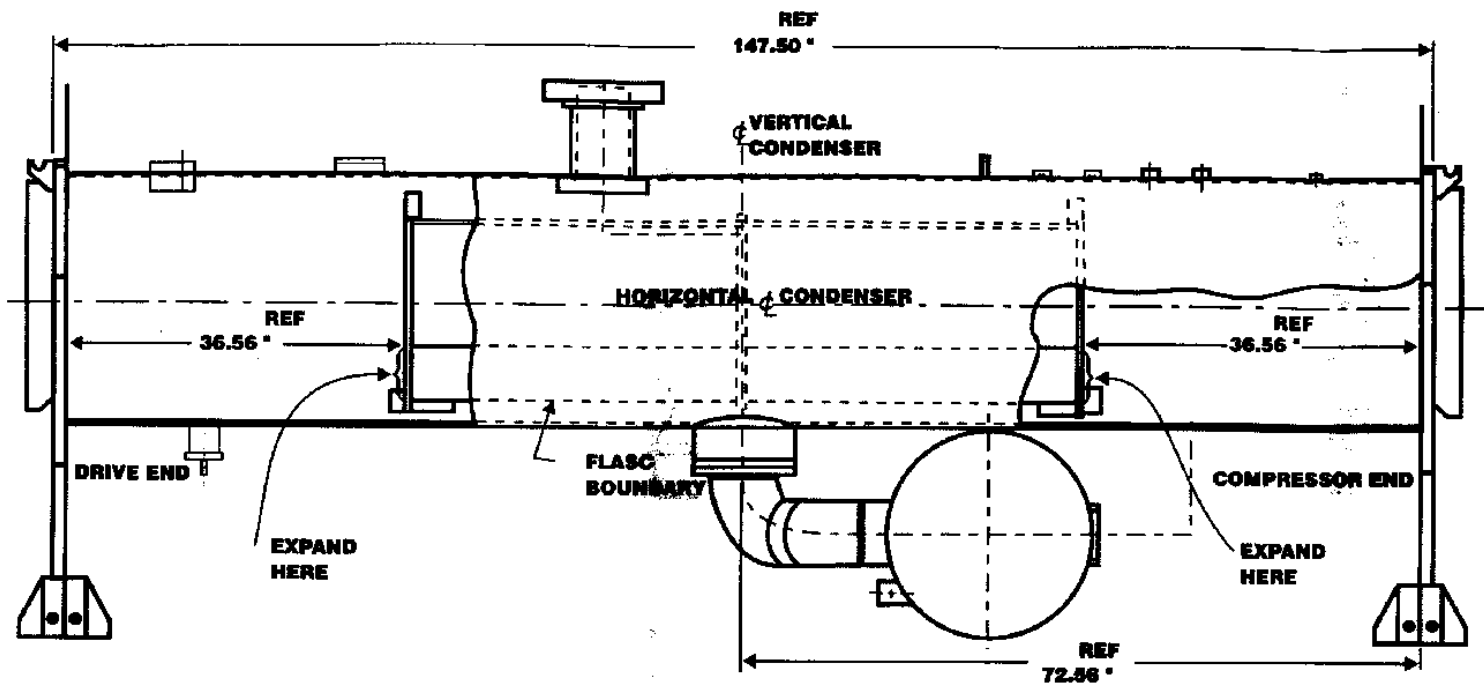
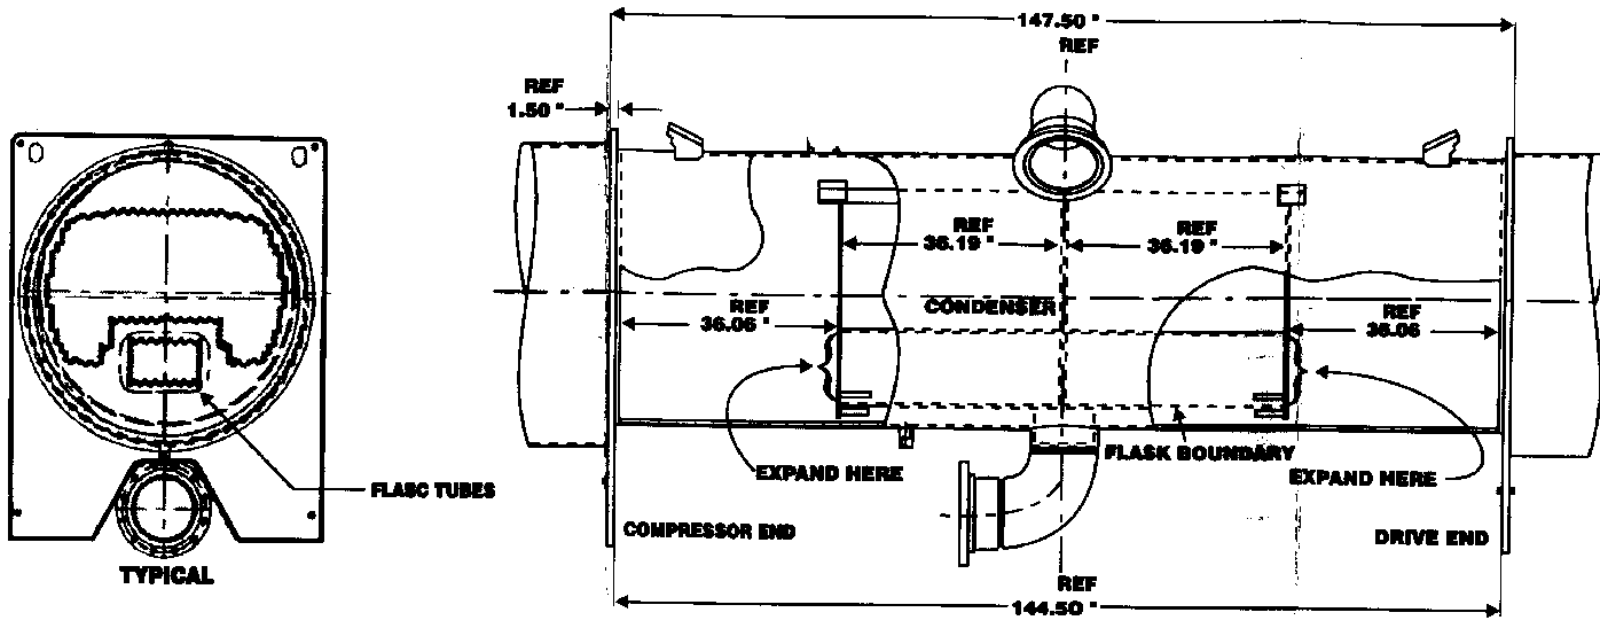
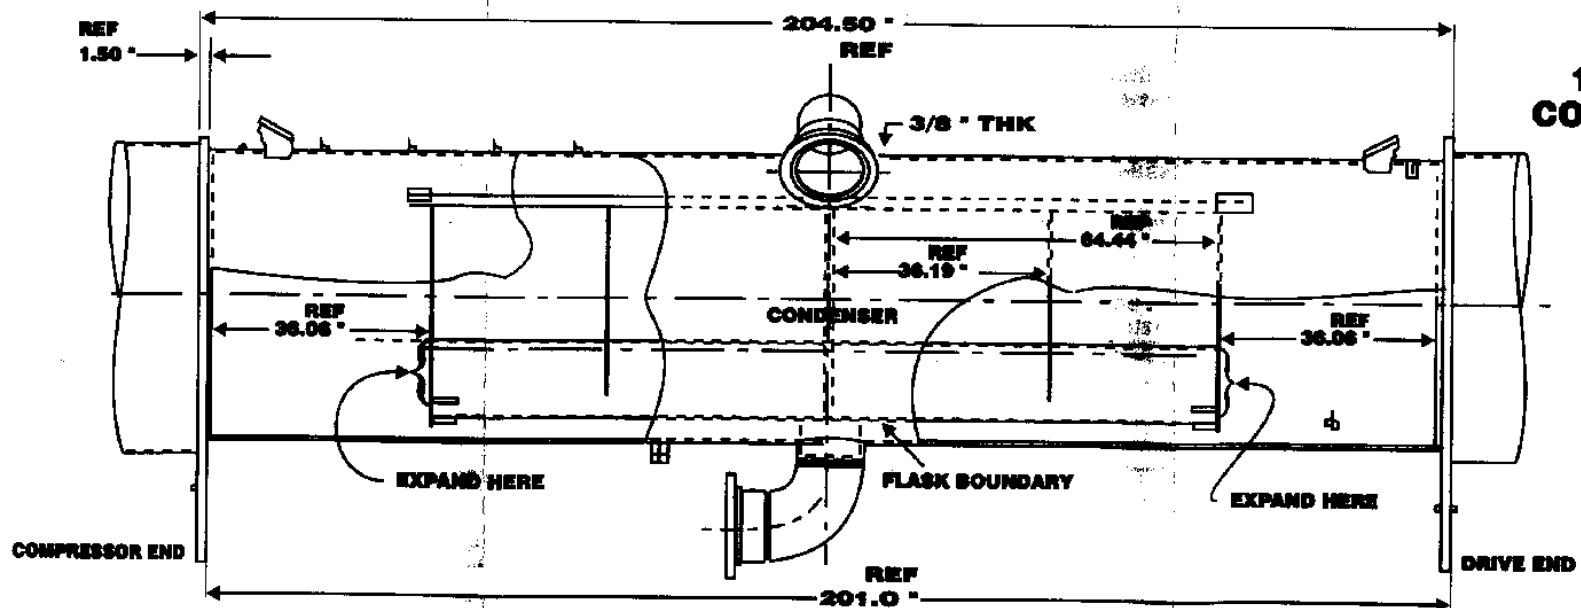

FIG. 1
FIG. 3
FIG. 4
19XL (XB) /EX	Condenser to flasc boundary (see fig 1 , fig 3 & fig 4) and top ten rows of condenser at all support sheets.